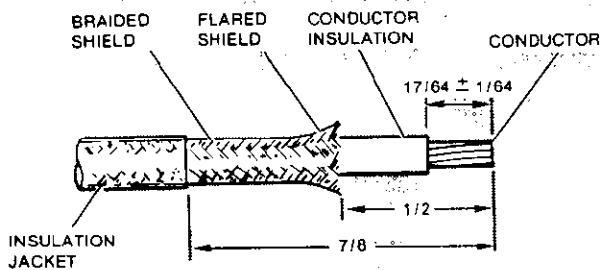

Figure 2
- (a) Strip shielded wire to dimensions shown in Figure 2.
- (b) Flare end of braided shield as shown in Figure 2.